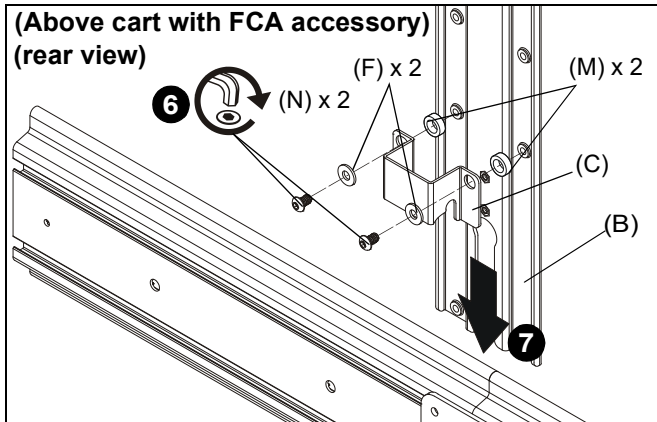

Figure 18
6. Use two 1/4-20 x 7/16" button head cap screws (N), two large washers (F) and two 1/2" spacers (M) to secure shelf bracket (C) to main bracket (B). (See Figure 18)
7. Slide main bracket (B) onto front of cart mount head assembly until shelf bracket (C) rests on top of head assembly. (See Figure 18)